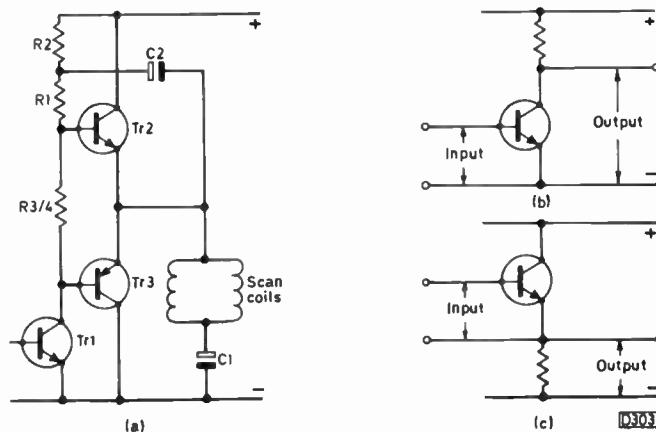

Fig. 1: Common-emitter or emitter-follower circuit?
I've found the series on *Transistors in TV Circuits* very interesting but would like to query the account of the bootstrap arrangement in the field driver/class B output stage given in the June issue, where it's stated that both stages are common-emitter circuits. One of the properties of a common-emitter circuit is that there is a 180° phase reversal between the input and output. But in this case – see Fig. 1(a) – the a.c. voltages at the inputs (bases) of the complementary output transistors TR2/3 are in phase with the output which is taken from the emitters, with the collectors grounded, i.e. the circuit is an emitter-follower.
S. W. Amos comments: R. Wallace is correct in saying that the input and output signals of a common-emitter amplifier are in antiphase – but only when the output is taken from the collector circuit as shown in Fig. 1(b). If the output is taken from the emitter circuit as in Fig. 1(a) and (c) the output signal is in phase with the input signal. Fig. 1(c) is probably a better way of showing a common-emitter circuit than the usual way – Fig. 1(b) – because it's so clear that the emitter terminal is common to the input and output circuits. Perhaps my explanation of the circuit's behaviour would have been clearer had I said "if TR2 and TR3 were emitter-followers their high input resistance would have made it difficult for TR1 to drive adequate current into them. In fact the voltage drop across R1 would probably have equalled the supply voltage before full output was obtained from the amplifier. But by making TR2 and TR3 into common-emitter stages their input resistance is reduced to a value at which TR1 can supply the input current with ease and the voltage developed across R1 and the input of TR2 and TR3 would be only a fraction of the supply voltage even when the amplifier is delivering maximum output."